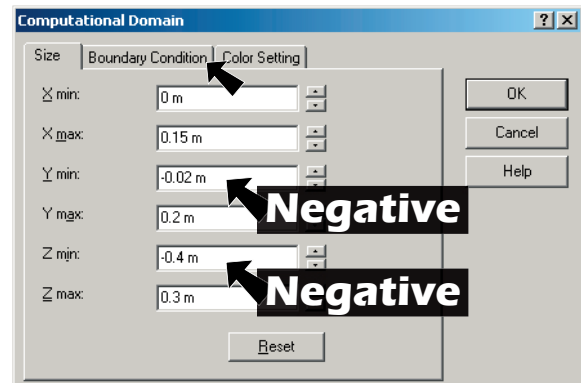

Fig. 10
Step 2. Set values as shown here and Fig. 10.
Step 3. Click **Boundary Condition** tab at the top of the dialog box, Fig. 10.